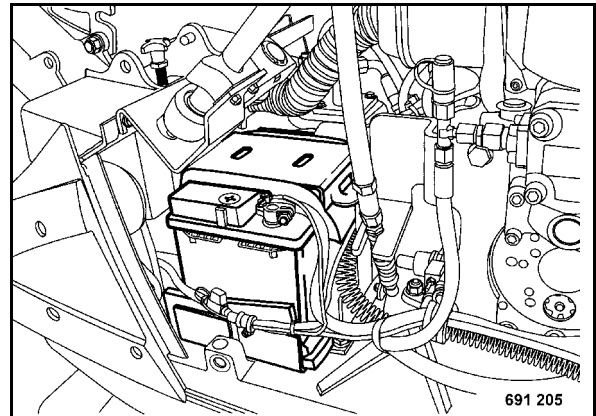

Fig. 55
- Unscrew the battery holder (Fig. 55).